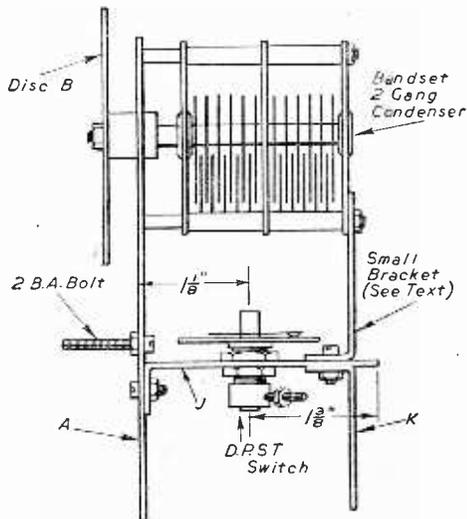

Fig. 14.—Showing how parts A, J and K are bolted together.
13. The chassis may now be assembled, whereupon it should give the appearance shown in Fig. 14. Parts A, J and K are bolted together with 4 B.A. nuts and bolts, using the "4 B.A. clear" holes avail-